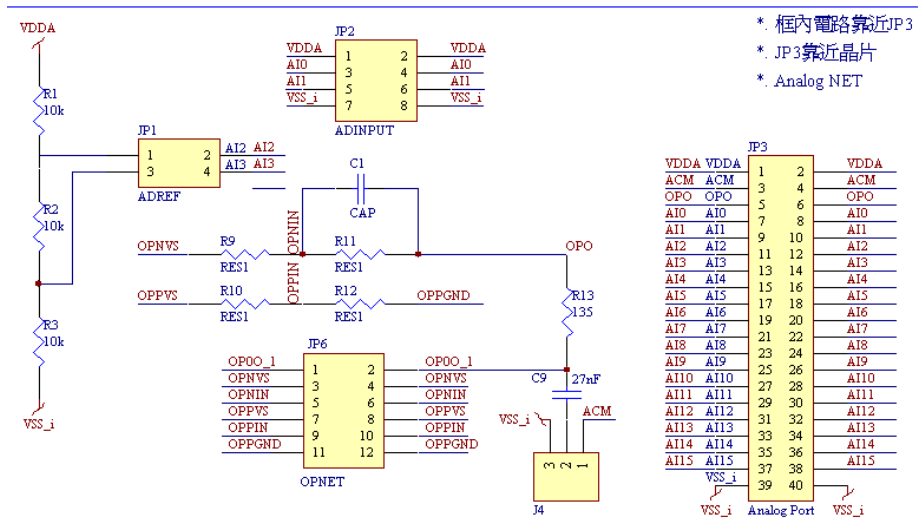
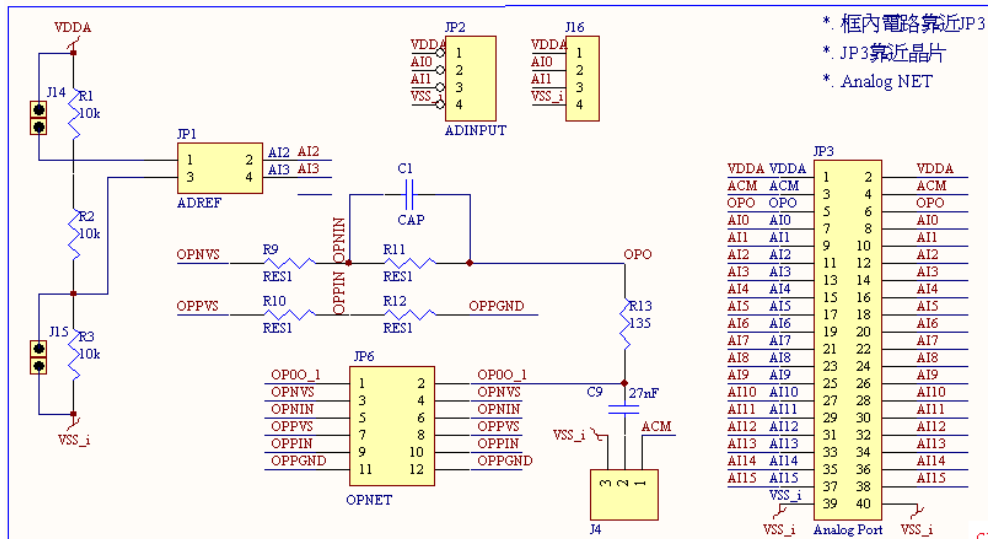

Figure 24
Figure 25
- ◆ Analog Port: For DK02, as shown in Figure 24. For DK03, as shown in Figure 25.